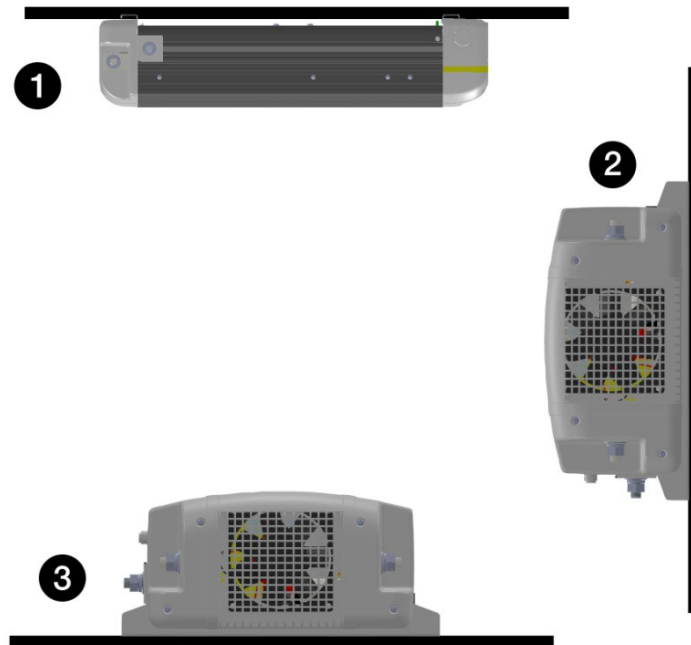

Figure 1-3 Approved Mounting Orientation
2. Select the mounting location (see illustration *Figure 1-3*). One of the following approved orientations is required:
- Under horizontal surface (1)
- Horizontal position on vertical surface (2)
- On horizontal surface (3)